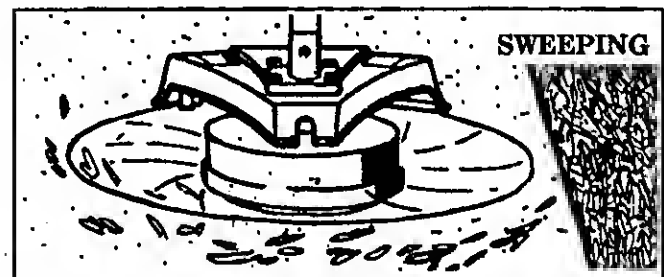

Figure 20
4. **SWEEPING** - Figure 20 . The fanning action of the rotating line can be used for a quick and easy clean up. Keep the line parallel to and above the surfaces being swept and move the tool from side to side.